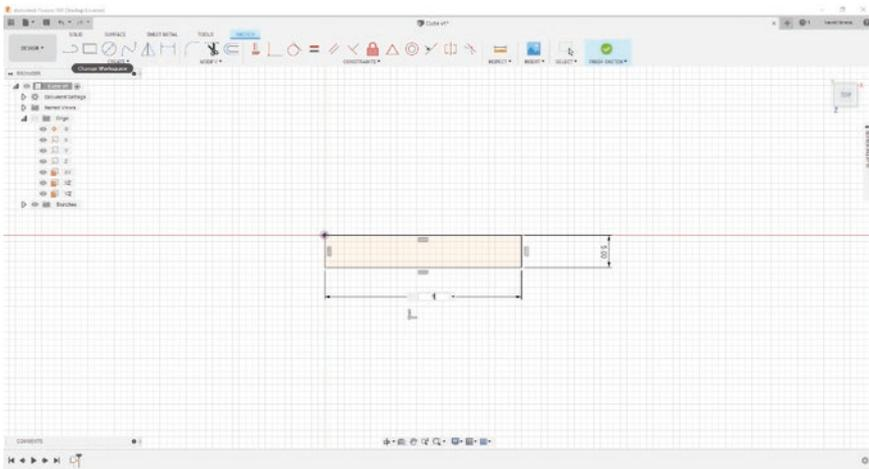

Figure 3-47. Add dimensions to the last side of the rectangle
10. Finally, let's constrain the last side by pressing the "D" key and selecting the final blue side and entering a 5 into the text box. See Figure 3-47. Congratulations! Your sketch is fully constrained now.